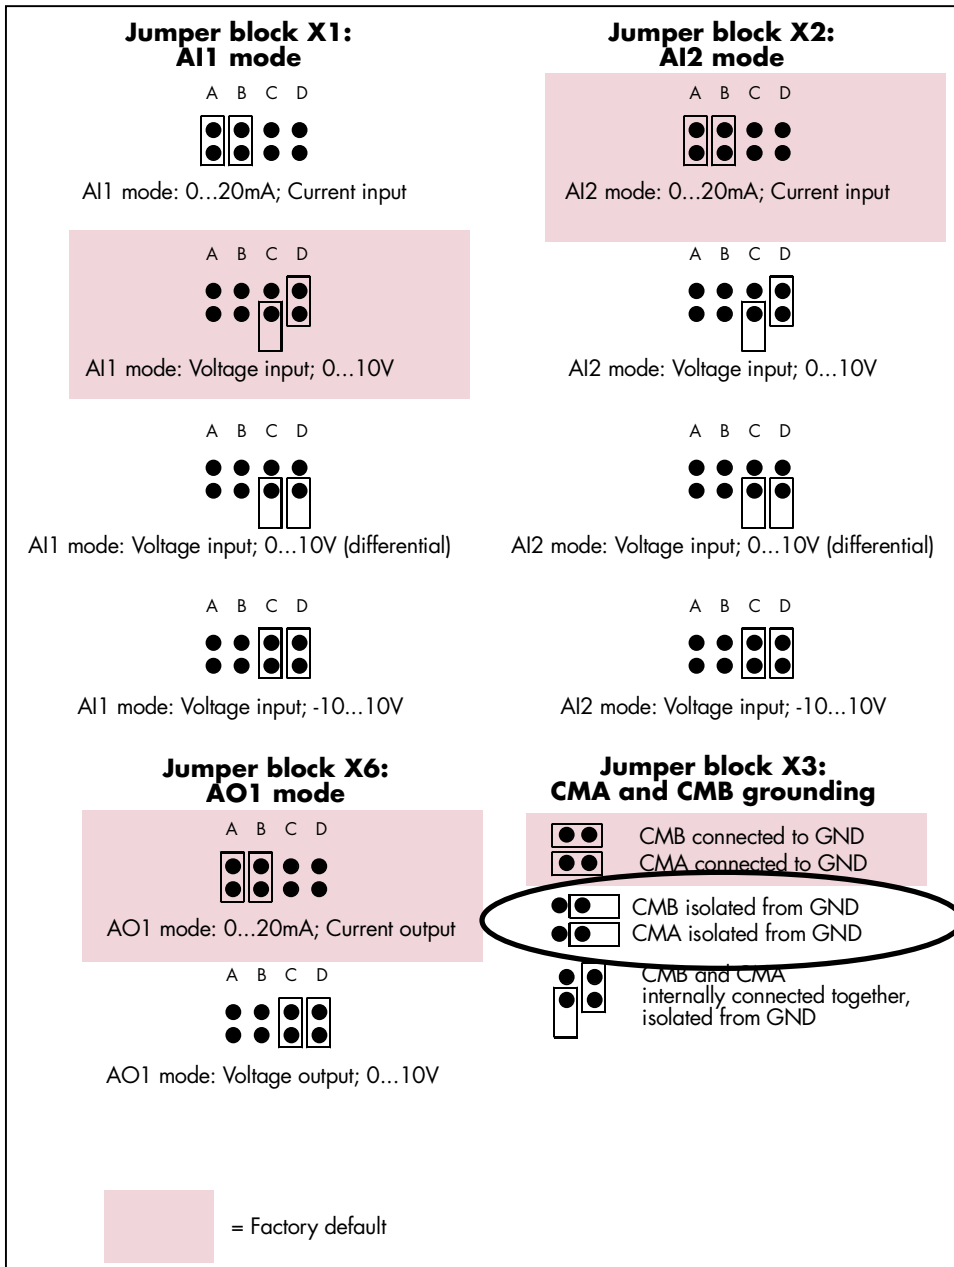

Figure 10. Jumper selection for OPT-A1
**NOTE!** All digital inputs are used with negative logic (0V is active). Jumper X3 has to be connected so that CMA and CMB are isolated from ground, i.e. OPEN. See Figure 10 below.